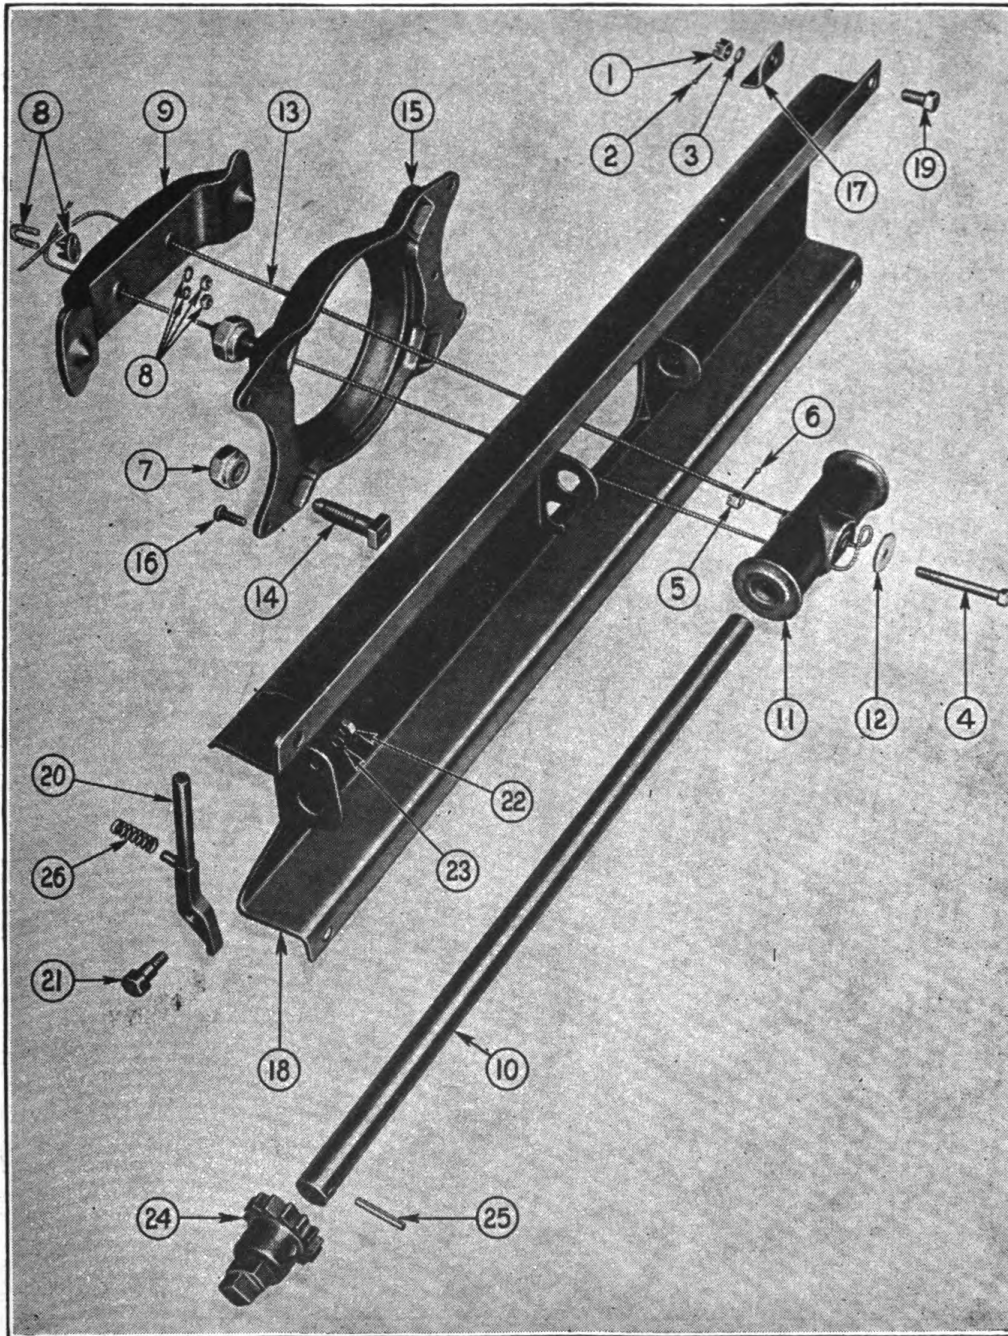

FIGURE 81. TIRE CARRIER—EXPLODED.
1. REMOVING TIRE FROM TIRE CARRIER (Fig. 81).—*a.* Remove the four lug nuts (7) from stud bolts (14), using large end of wheel wrench.
b. Place small end of wheel wrench over end of ratchet (24). Shove ratchet release handle (20) down to the released position. Lower tire to ground holding firmly to wheel wrench handle.
2. REPLACING TIRE CARRIER (Fig. 81).—*a.* Remove the tire from the tire carrier. Remove the four bolts (19) holding tire carrier to frame and lift out.
3. TIRE CARRIER CABLE REPLACEMENT.—*a.* Remove bolt (4) and washer (12) from drum (11). Remove the cable clamp (8) and pull cable (13) out of saddle (9).
b. NOTE: When replacing cable, place center of cable on bolts (4), making sure both sides are the same length. Should one side of cable be longer than the other, the tire will not wind up level; extra stress, apt to cause failure, will be placed on short end of cable.
4. REPLACING TIRE CARRIER RATCHET RELEASE HANDLE.—*a.* Remove nut (22) and washer (23). Pull bolt (21) out of ratchet release handle (20). Pull spring (26) off handle.